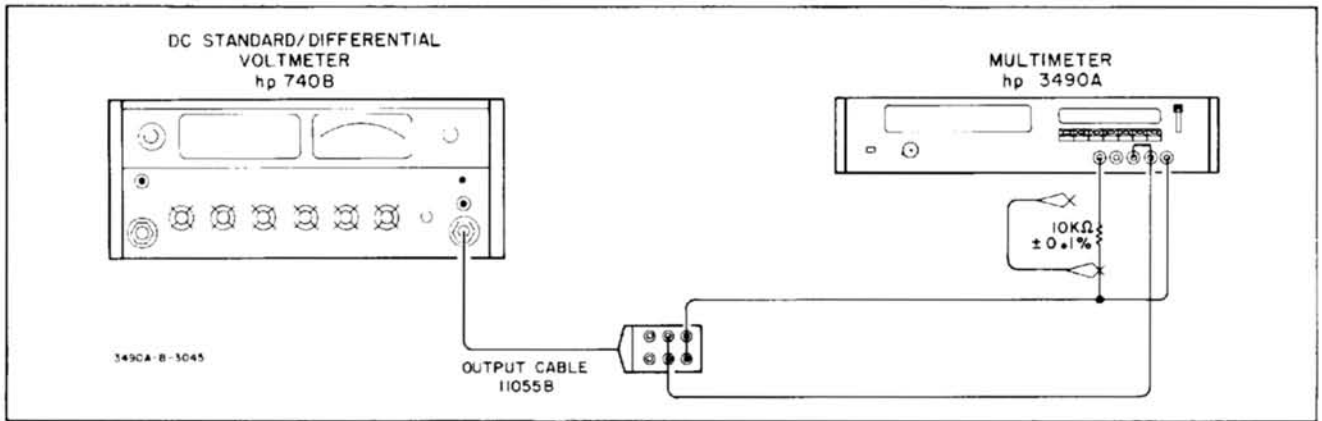

Figure 5-8. External Reference Input Resistance Test.
b. Connect 3490A, dc standard and 10 k Ω resistor as shown in Figure 5-8. Connect jumper across resistor.